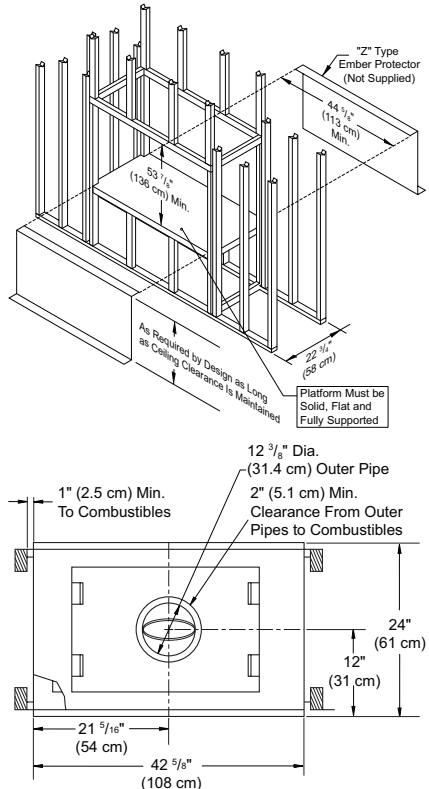
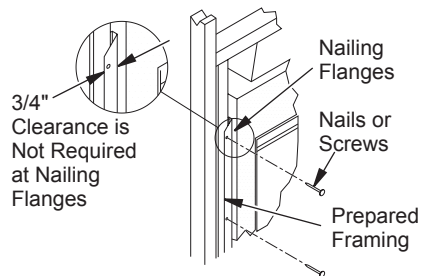

Figure 1 - Framing Dimensions
Figure 2 - Nailing Flanges
1. The location must allow for proper clearances (see Figure 1 and Figure 2, page 4).
1. Frame opening for fireplace using dimensions shown in Figure 1.
6. Using screws or nails, secure fireplace to framing through flanges located on sides of fireplace (see Figure 2).